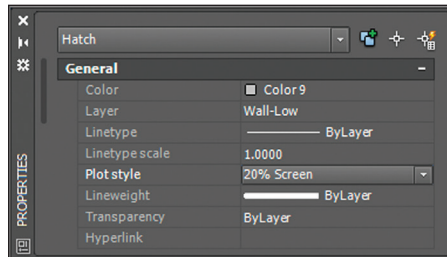

FIGURE 14.12 Changing the plot style assigned to a specific object
6. Open the Plot Style drop-down in the Properties palette and select Other from the menu. Select 20% Screen in the Select Plot Style dialog box that appears. Click OK and 20% Screen is listed as the plot style for the Hatch object in the Properties palette (see Figure 14.12). This object will plot with reduced intensity, so the hatch appears lighter.